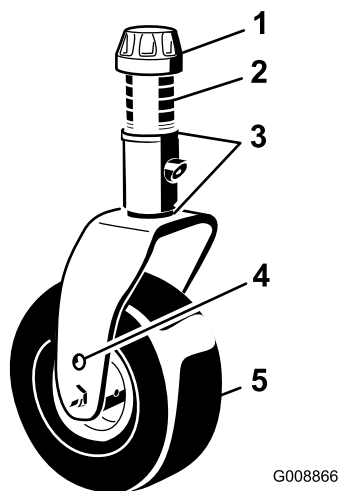

Figure 2
1. Remove the tensioning caps from the spindle shafts and slide off the spacers and thrust washers (Figure 2).
2. Slide the spacers onto the castor spindle to get the desired height-of-cut; refer to Figure 7 & Figure 8 to determine the combinations of spacers for the setting. Slide a thrust washer onto the spindle, push the castor through the castor arm. Install another thrust washer and the remaining spacers onto the spindle and install the tensioning cap to secure the assembly (Figure 2).